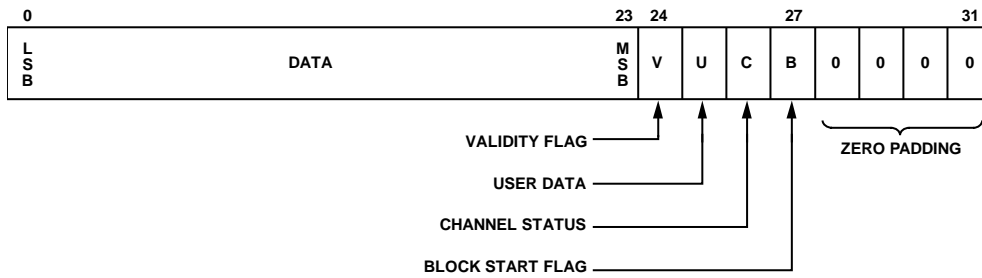
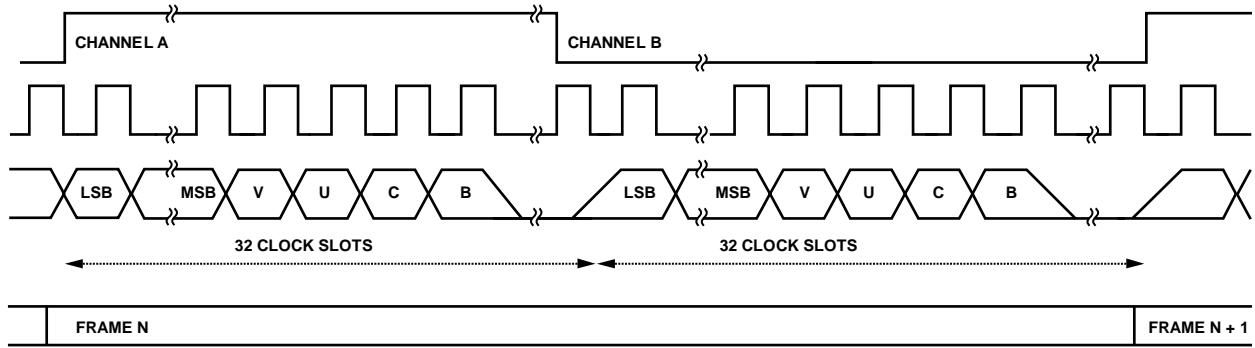

Figure 18. AES3 Subframe Timing Diagram
Figure 19. AES3 Stream Timing Diagram
- An AES3 stream if the I2SOUTMODE[1:0] control is set to 0x3 (refer to Figure 18 and Figure 19). Note that AES3 is also referred to as raw SPDIF. Each AES3 stream may encapsulate stereo L-PCM audio data or multichannel non L-PCM audio data (for example, 5.1 Dolby Digital).
- An AES3 stream on each HBR interface output pin (refer to Figure 18 and Figure 19). The following configuration is required to output AES3 streams: